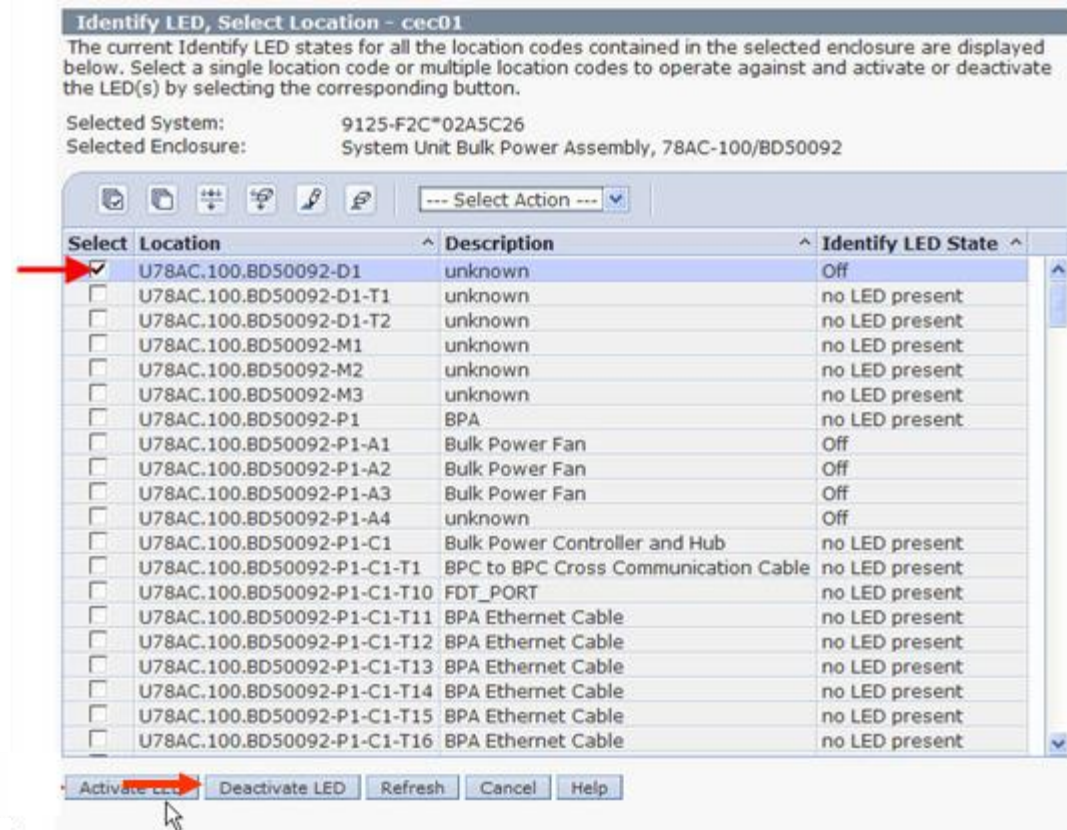

Figure 12 Identify LED, Select Location Window
STEP 20 When the use of the UEPO Identify LED is complete, turn it off by selecting it in the list in **Identify LED, Select Location** and then *click* the **Deactivate LED** button (see Figure 12 Identify LED, Select Location Window).